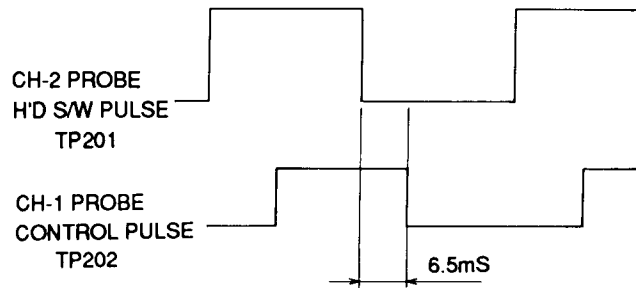

Fig. 7 Tracking Preset Adjustment
4. Set the tracking preset to 6.5 m/sec using the tracking button ▲/▼ of remote control (Refer to Fig. 7 and 8)